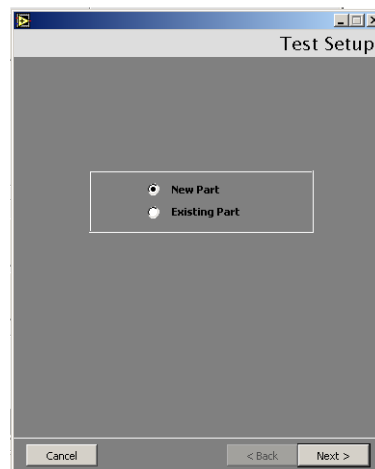

Figure 2-37 Test Setup
1. Click **Multi Part Tester** on the *Home* screen and Figure 2-37 appears.